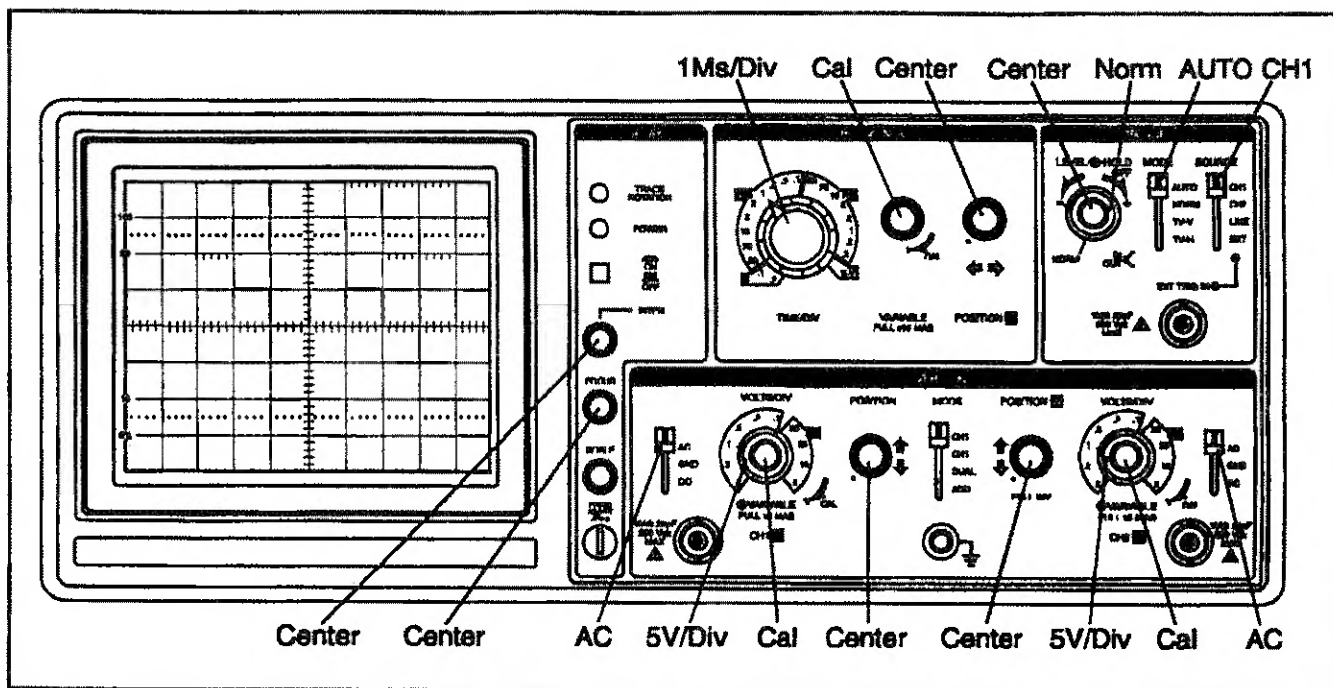

Fig. 3. Recommended Initial Settings
Until you familiarize yourself with the use of all controls, the settings shown in Fig. 3 may be used as a reference point to obtain a trace on the CRT in preparation for waveform observation.
2. Set the controls as indicated in Fig. 3.